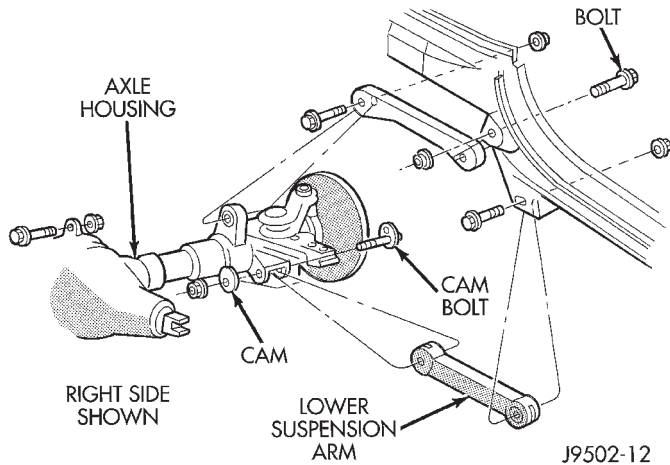

Fig. 4 Upper & Lower Suspension Arms
(3) Remove the lower suspension arm nut, cam and cam bolt from the axle (Fig. 4).
(4) Remove the nut and bolt from the frame rail bracket and remove the lower suspension arm (Fig. 4).
- (1) Raise and support the vehicle.
- (2) Remove the upper suspension arm nut and bolt at the axle bracket (Fig. 4).
- (3) Remove the nut and bolt at the frame rail and remove the upper suspension arm.